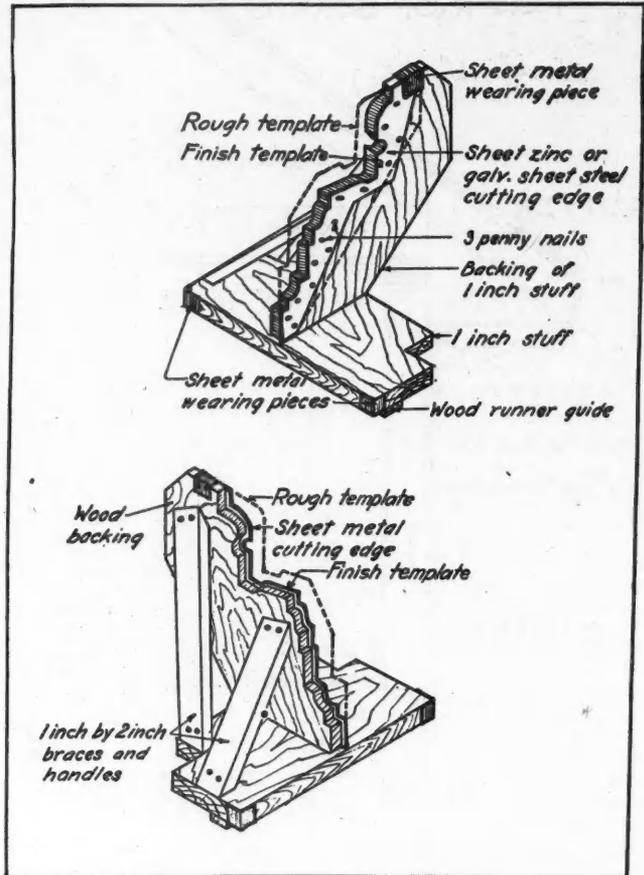

Fig. 4. The Finish Template Cutting Edge Nailed Over the Rough Template Cutting Edge.
**I**N the previous article we detailed the various preliminary steps necessary to "run" a cornice or an ornamental beam beginning with the making of the template, the application of the scratch coats of plaster to that portion of the ceiling or beam where the cornice is to be run and finished up with the description of the method of applying the screeds and the runner guides to the wall and ceiling. Illustration of the template used on this job are shown in Fig. 4. We are now ready to proceed with a description of the actual steps taken in the running of the cornice.
The cornice is now ready for the finishing coats. The first thing to do is to scrape the rough template clean and nail the finish template cutting edge over it. See Fig. 4.
In Fig. 4 we use the same numbers to obtain the cuts, but in this case we are working from the edge of the rafter.
The same template, see Fig. 4, as was used to run the cornice on the wall is used on the table. In order to lessen the difficulties in mitering the cornice in place it is customary to run table work over a bed of wet sand or clay so that substantially all that is run in plaster is only the thickness of the finished plaster, from one to two inches thick. It is then cut with an ordinary carpenter's saw and stuck in place with neat gypsum and fibre. The finishing touches to join up abutting sections are done by the plasterer with a special finishing tool after the joints are filled in with neat (sandless) plaster. This work requires a high degree of skill and usually plasterers who have had considerable experience are selected for this work.